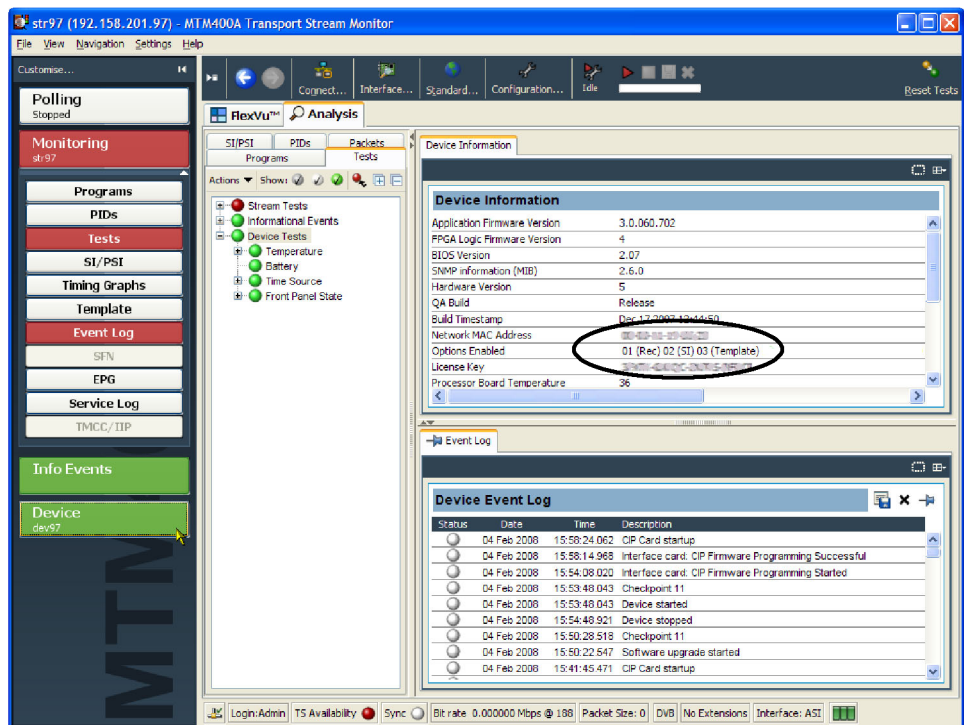

Figure 2: Device Information view
6. Click **Device** in the button bar of the RUI window to display the Device Information view. (See Figure 2.)